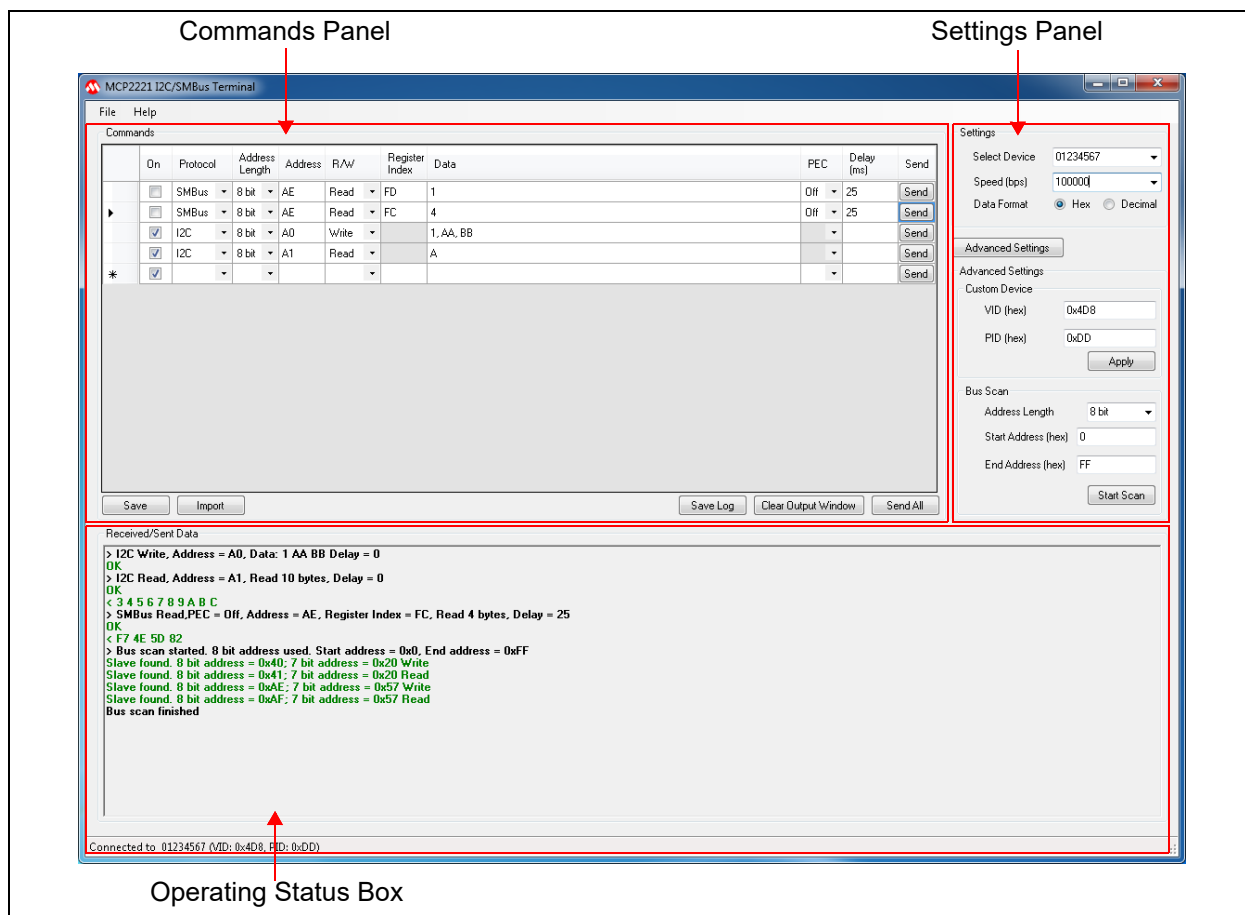

FIGURE 3-1: The I²C/SMBus Terminal User Interface.
2. To start the I²C®/SMBus Terminal application, select Start > All Programs > Microchip > MCP2221 I2C/SMBus Terminal. The interface detects the MCP2221A device automatically and is ready for use (see Figure 3-1).
As depicted in Figure 3-1, the MCP2221A USB-C Breakout Board user interface is divided into three parts: